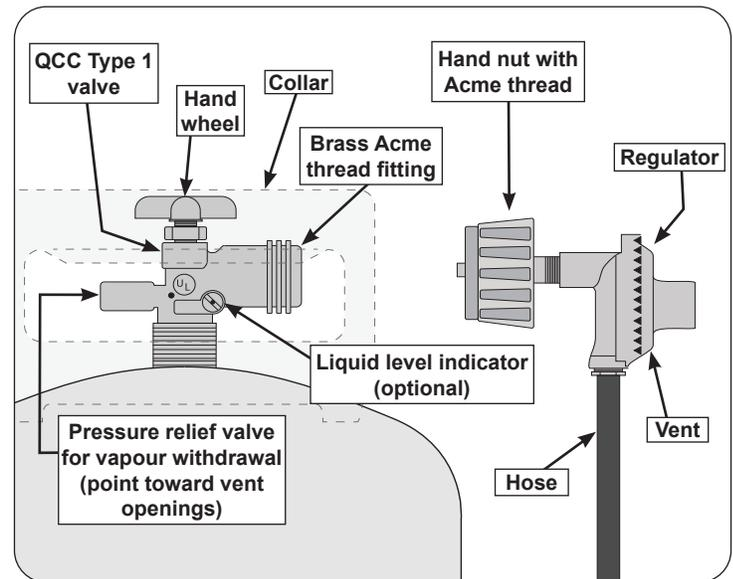

Fig. 9-1 Type I Acme thread coupler
- d. The cylinder used must include a collar to protect the cylinder valve. The cylinder supply system must be arranged for vapour withdrawal. See Fig. 9-1.
- e. When used with a cylinder, the gas supply system must be used with a pressure regulator. The pressure regulator and hose assembly (Fig. 9-1) supplied with this outdoor gas appliance (**select L.P. models only**) must be used. Original and replacement pressure regulator and hose assemblies must be those specified by the manufacturer for connection with a cylinder connecting device identified as Type I by the ANSI Z 21.58/CGA 1.6 and must comply with UL 144 as a part of the self-contained LP gas supply system (see PARTS LIST for ordering information).
To disconnect: Turn the hand nut counterclockwise until detached (Fig. 9-1).